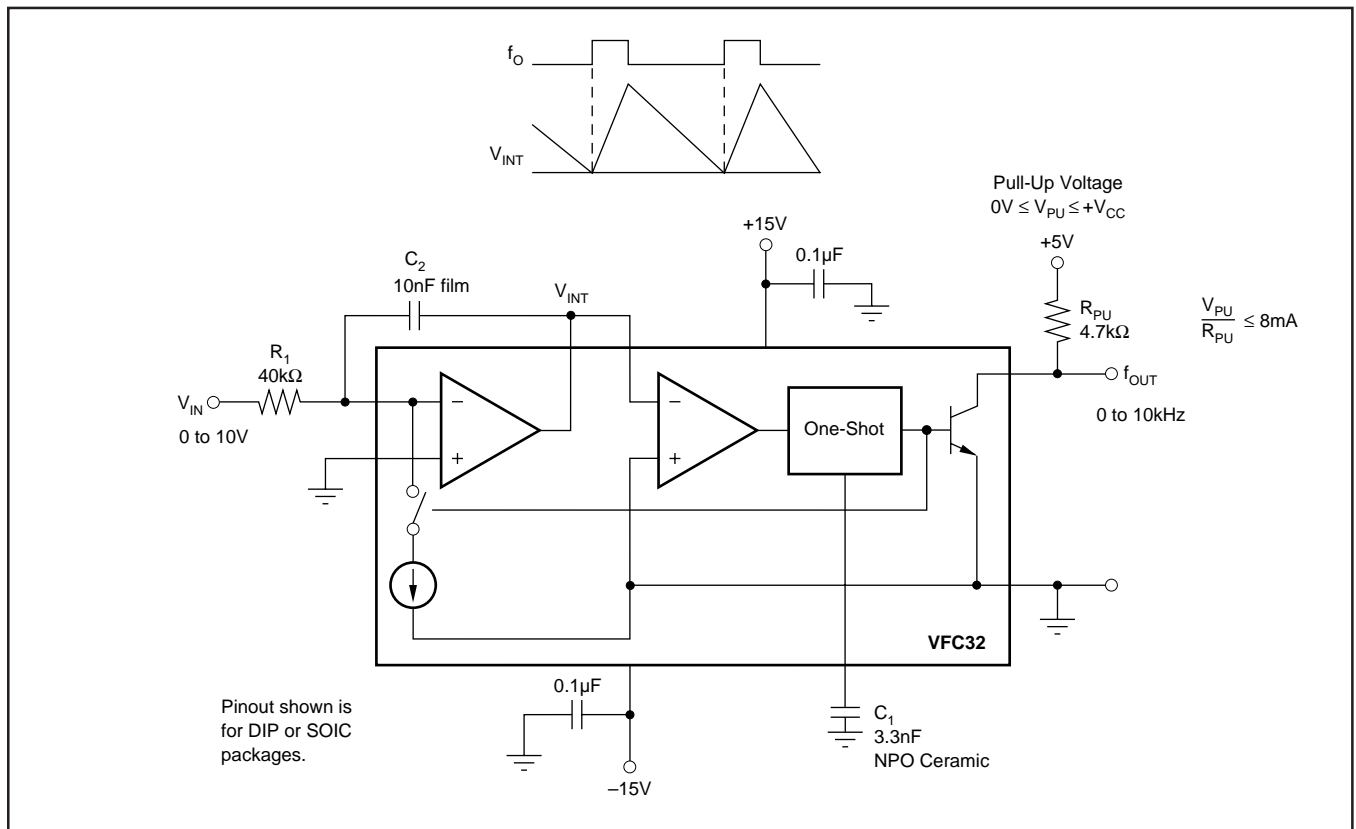

FIGURE 1. Voltage-to-Frequency Converter Circuit.
NOTES: (1) A 25% duty cycle (0.25mA input current) is recommended for best linearity. (2) Adjustable to zero. See Offset and Gain Adjustment section. (3) Linearity error is specified at any operating frequency from the straight line intersecting 90% of full scale frequency and 0.1% of full scale frequency. See Discussion of Specifications section. Above 200kHz, it is recommended all grades be operated below +85 $^\circ\text{C}$. (4) $\pm 0.015\%$ of FSR for negative inputs shown in Figure 5. Positive inputs are shown in Figure 1. (5) FSR = Full Scale Range (corresponds to full scale frequency and full scale input voltage). (6) Exclusive of external components' drift. (7) Positive drift is defined to be increasing frequency with increasing temperature. (8) For operations above 200kHz up to 500kHz, see Discussion of Specifications and Installation and Operation sections. (9) One pulse of new frequency plus 1 μs .
Figure 1 shows the basic connection diagram for frequency-to-voltage conversion. R_1 sets the input voltage range. For a 10V full-scale input, a 40k Ω input resistor is recommended. Other input voltage ranges can be achieved by changing the value of R_1 .
The full-scale output frequency is determined by C_1 . Values shown in Figure 1 are for a full-scale output frequency of 10kHz. Values for other full-scale frequencies can be read from Figure 2. Any variation in C_1 —tolerance, temperature drift, aging—directly affect the output frequency. Ceramic NPO or silver-mica types are a good choice.